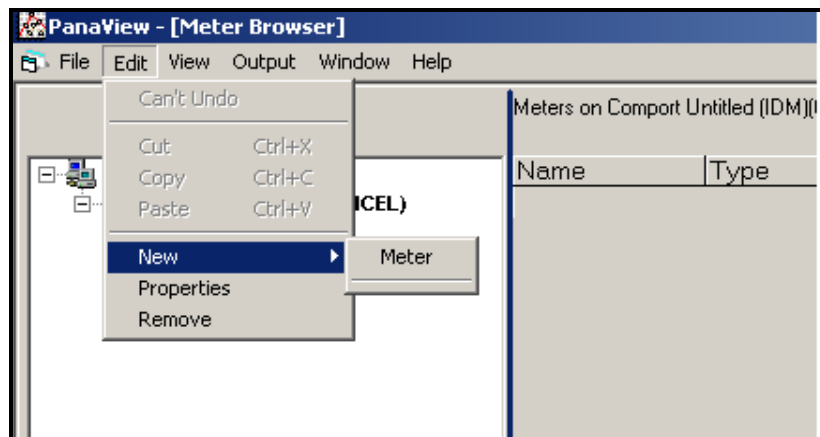

Figure F-4: “*New*” Option in the “*Edit*” Menu
2. Click on the “*New*” option in the “*Edit*” menu (see Figure F-4 below).